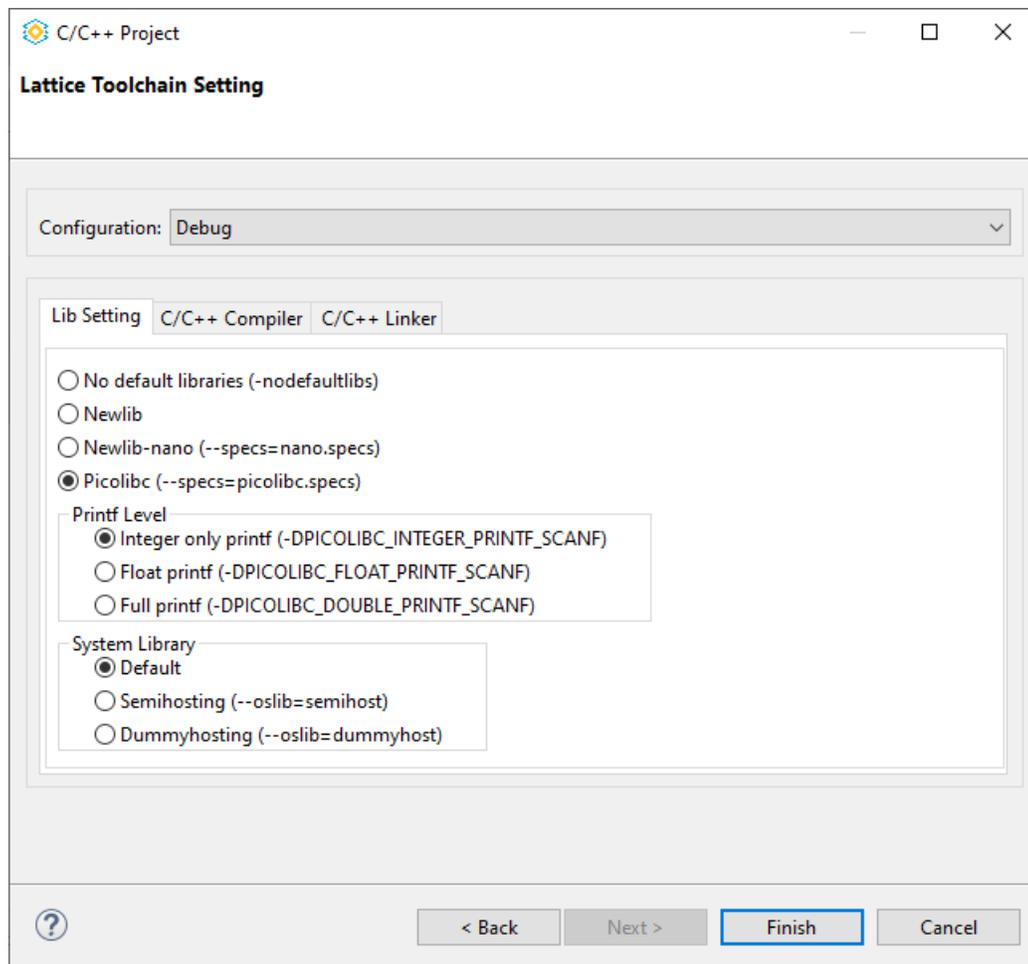

Figure 3.22. Lattice Toolchain Setting Dialog
10. Click **Next**. The **Lattice Toolchain Setting** dialog opens (Figure 3.22).